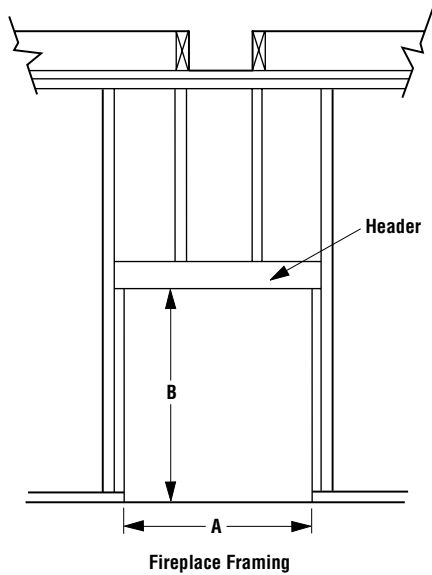

Figure 11
**Step 3.** Refer to fireplace drawings and specifications on pages 6 and 7 for framing dimensions and details. Frame appliance enclosure as illustrated in Figures 11 through 14 on page 7.